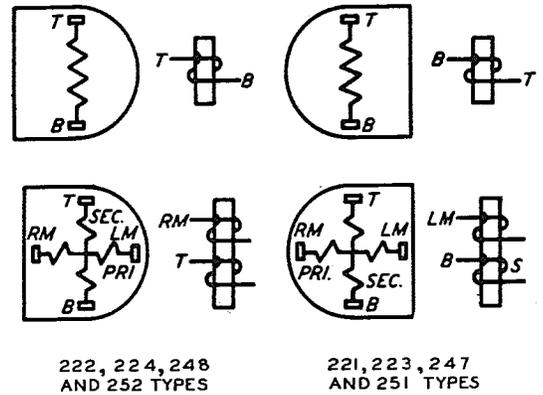

FIG. 28-WINDING TERMINAL ARRANGEMENT AS VIEWED FROM THE REAR (TERMINAL SIDE)- 221, 222, 223, 224, 247, 248, 251 AND 252 TYPE AND SIMILAR A.E. CO. RELS.
2.42 The springs in an assembly are consecutively numbered outward from the frame on which the assembly is mounted, that is, the springs on a right-hand relay are consecutively numbered from left to right and on a left-hand relay from right to left. The connecting point is indicated by the relay letter designation preceded by the spring number. Where the designation X follows a numeral it indicates a spring having no soldering terminal or contact, and is located, on a left hand relay, to the immediate left of the spring having the same numerical designation and, on a right hand relay, to the immediate right of the spring having the same numerical designation. If no numeral precedes the designation X, it indicates that such a spring is the first spring in the pileup. For example: The numeral 3 indicates spring No. 3 of the relay while 2B would indicate spring No. 2 in the bottom spring combination of the relay. The winding terminals are arranged as illustrated in Fig. 28.